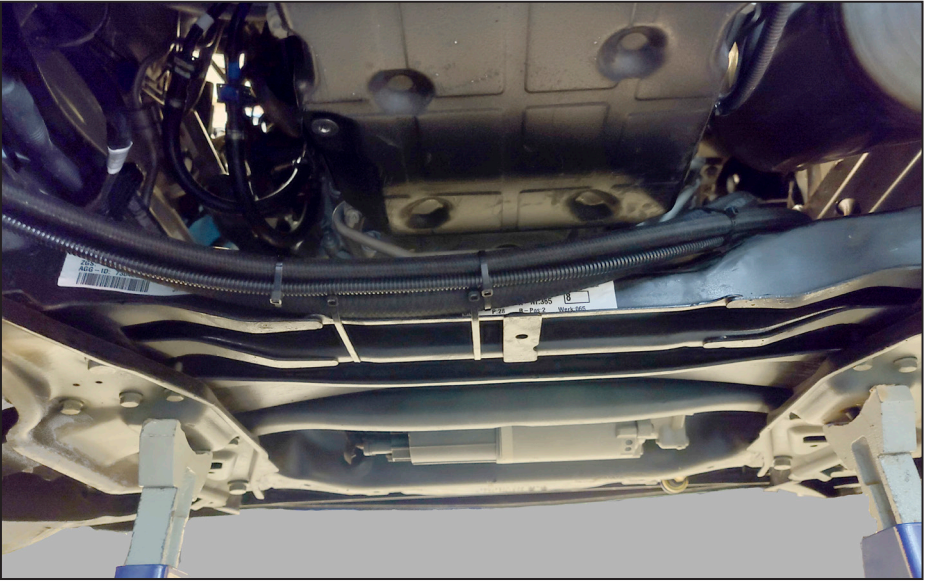

Figure 34 — Route hoses
- Route the hoses and PTFE tube along the rear edge of crossmember, behind suspension, and over to the driver side of the vehicle (Figure 34).